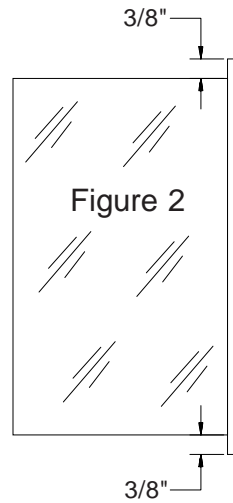

Figure 2
2. Hold the hinge rail (2) in place (side with screw heads facing up), against vinyl channel with 3/8" extending beyond end of glass, at both ends (See Figure 2). Using a block of hardwood and a heavy steel hammer, drive hinge rail into place on glass. **Note:** Tighten hinge rail screws to slightly dimple the rail (DO NOT strip).
2. Set wall channels in place and secure with #8 x 1 1/2" screws (15) using bottom screw only on latch side (See Figure 2).